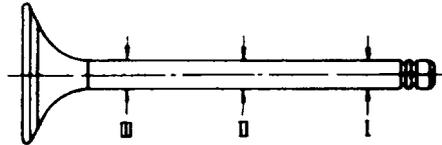

Figure 7 Valve Stem Measuring Points
- t. Check the valve stems for wear by measuring the valve stem diameter in three places using a micrometer (Figure 7). The standard valve stem diameter limits are:
- (1) inlet valve, 8.88 to 8.961 mm (0.350 to 0.353 in); and
- (2) exhaust valve, 8.88 to 8.936 mm (0.350 to 0.352 in).